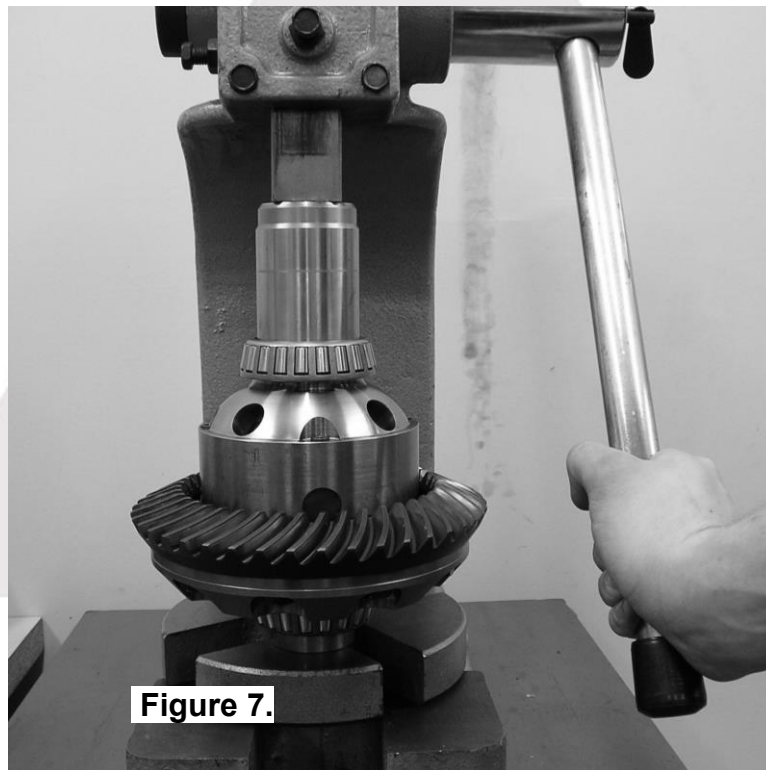

Figure 7.
- Press one of the tapered roller bearing cones onto one of the bearing journals of the *Air Locker* until the bearing seats firmly against the bearing journal shoulder (Fig. 7.).